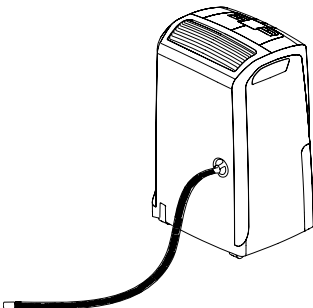

Fig. 4
- 2) Insert the drain cap **1** into the condensate drain hose **8** (fig. 3). Then, screw the cap **1** into the spout. (fig. 4).